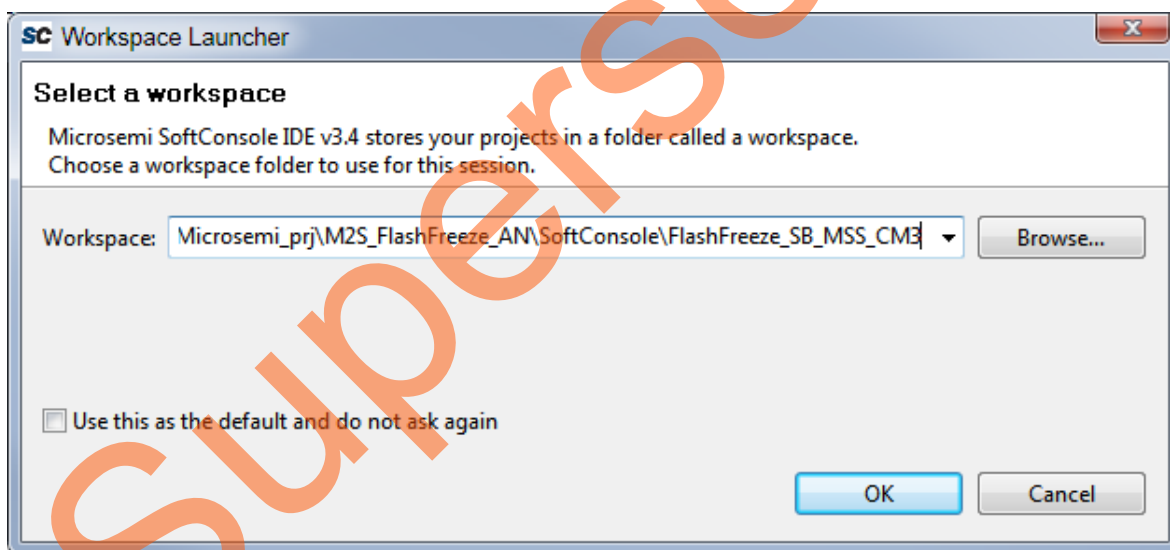

Figure 11 • Specifying SoftConsole Workspace Location
5. Launch the SoftConsole v3.4 SP1 and specify the **Workspace** to point to the SoftConsole folder project where the Libero project is located, refer to Figure 11.